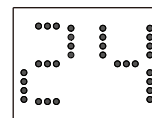

fig1
- In Celsius degree, the digital displays like fig1.